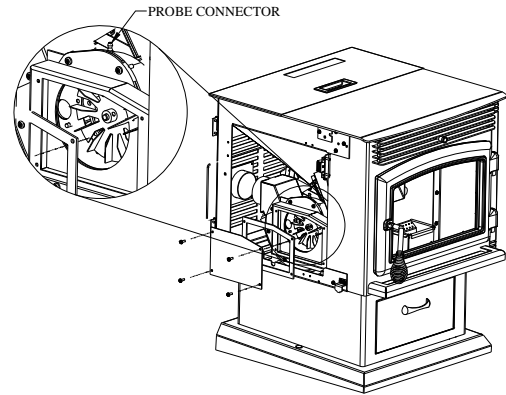

Figure 25
- **Blower Cleaning** – Over a period of time, ashes or dust may collect on the blades of both the combustion/exhaust blower and convection blower. Periodically, the blowers should be cleaned as the ash and dust can impede performance. The combustion/exhaust blower can be accessed by opening the left, right, and back panels. (Figure 25) To clean the blades in the combustion housing, insert the vacuum tip through the air inlet damper opening located on the side of the combustion housing. Clean thoroughly. To clean the blades in the exhaust housing, use a screw driver to remove the cleaning access panel located on the side of the metal box covering the housing. Insert the vacuum tip through the cleaning outlet and clean the blades thoroughly.